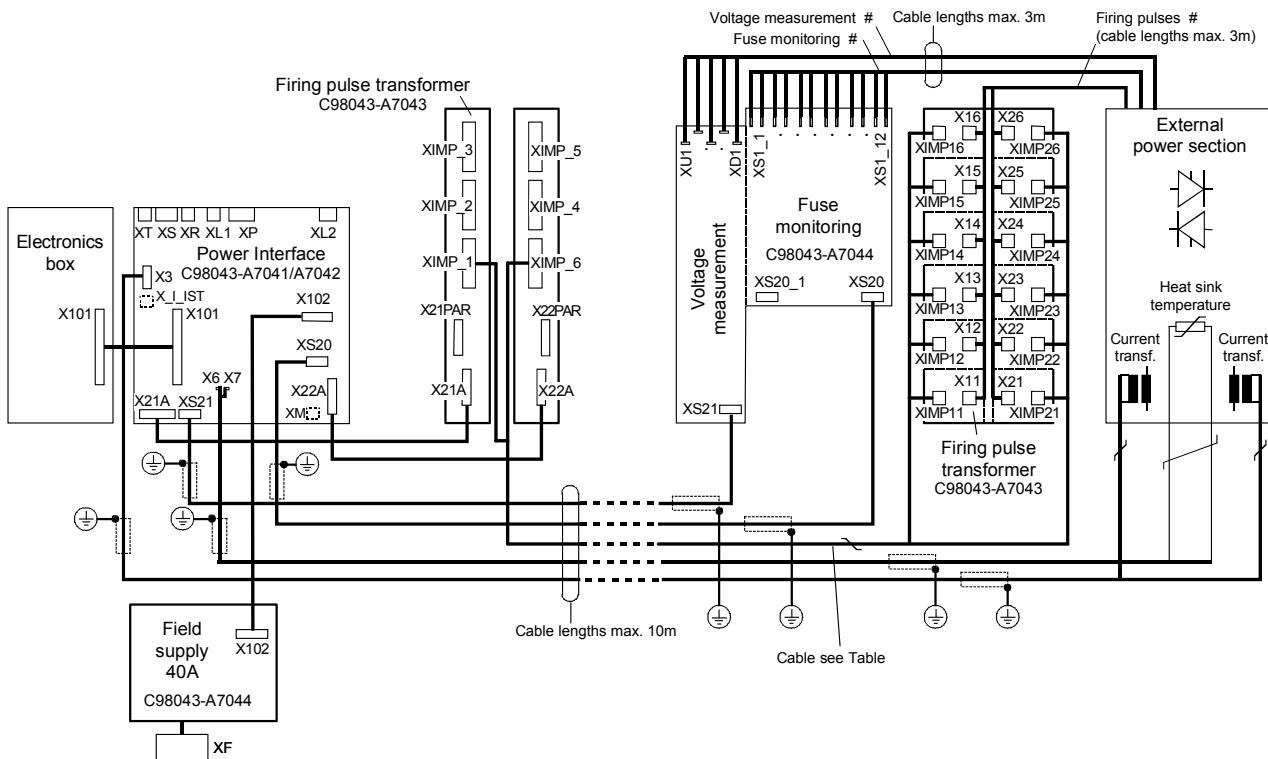

Fig. 6.4.3
- 3. Rear and front trough mounted one on top of the other or separately, modules C98043-A7043 C98043-A7044 separated (firing pulse transformer, voltage measurement, and fuse monitoring mounted with power section), field supply remains in trough (Fig. 6.4.3)**